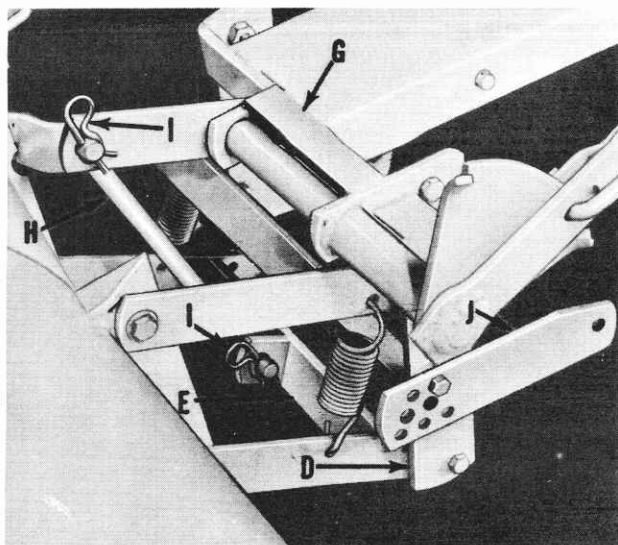

FIG. 2
4. Refer to Fig. 2. Assemble pivot frame and channel weldment (G), to hanger weldment (D), with two  $\frac{3}{8} \times \frac{1}{4}$  hex bolt and gripco nuts. Nuts to inside as shown.
5. Refer to Fig. 2. Assemble lift link (H), to swing frame lower (E), and to arm of pivot frame and channel weldment (G), and secure with two of the large retainer springs (I).
6. Refer to Fig. 2. Attach both push straps (J), to hanger weldment (D), using upper rear hole in push straps (J), as shown.